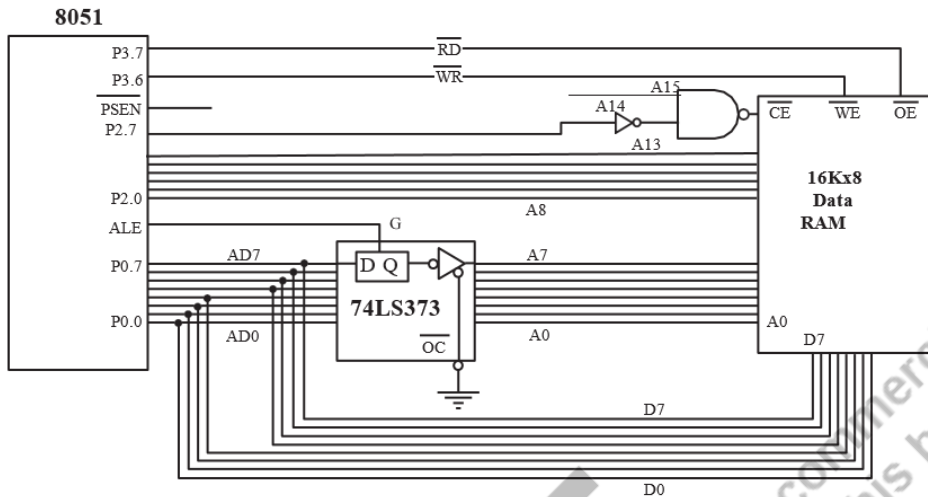

Figure 4.6: 8051 Connection to External Data RAM [Mazidi, 2013]
In the Figure 4.6 we are interfacing an 8051 microcontroller to external data RAM for 16KB data memory. First, connect the microcontroller's address and data pins to the corresponding pins on the RAM. For 16KB (16Kx8) of RAM, you need 14 address lines to select specific memory locations. The data pins are used for bidirectional data transfer between the microcontroller and the RAM. The Read (RD) and Write (WR) control pins from the 8051 are connected to the Output Enable (OE) and Write Enable (WE) pins on the RAM to manage data reading and writing operations. A chip select signal for the RAM is generated by decoding the higher address lines, which ensures the RAM is activated only when addressed by the microcontroller. This setup allows the 8051 to efficiently access and manipulate up to 16KB of external data memory.